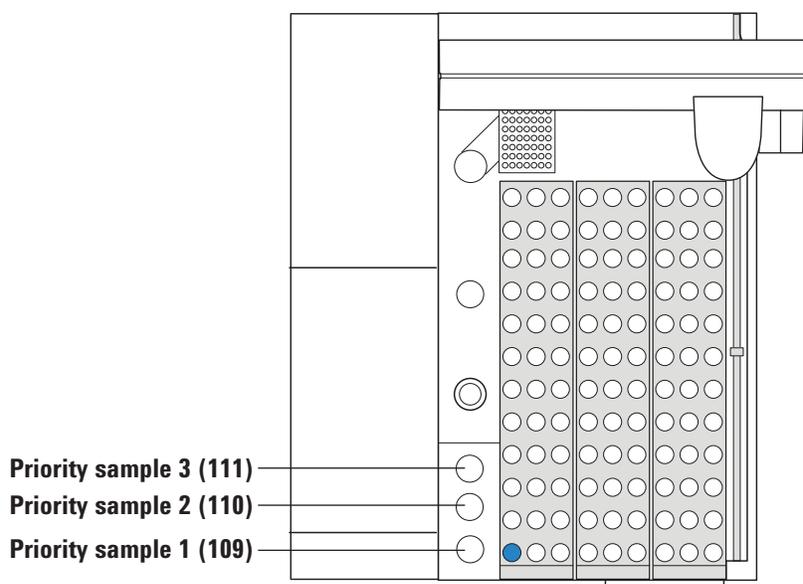

Figure 15 Priority sample locations
- 2 Place the new sample vial in the next priority sample position. Start with priority sample position 1. See Figure 15.